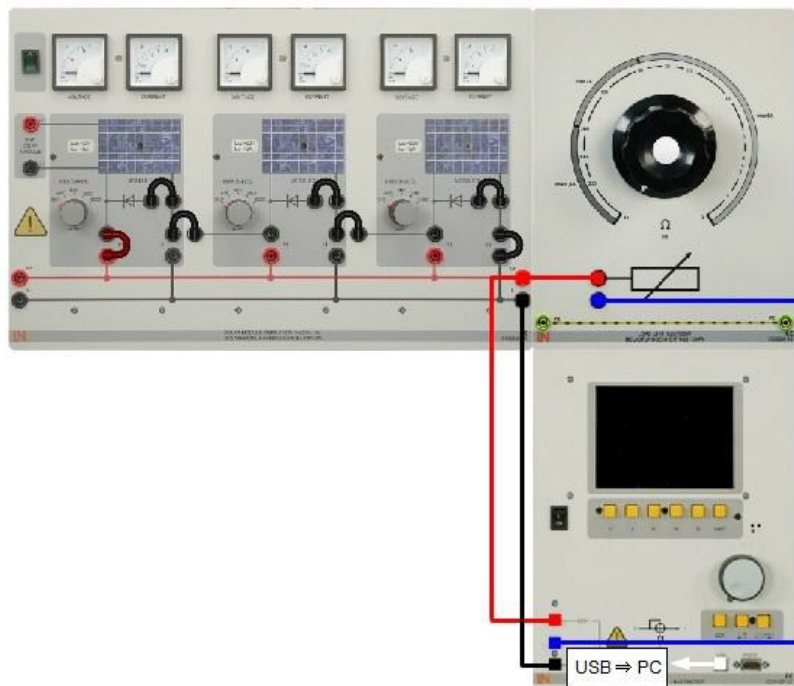

Fig. 3.6.2
6. Connect the solar modules' bypass diodes. Set the modules to an irradiance of  $1000W/m^2$ . The experimental configuration is shown in Fig 3.6.2